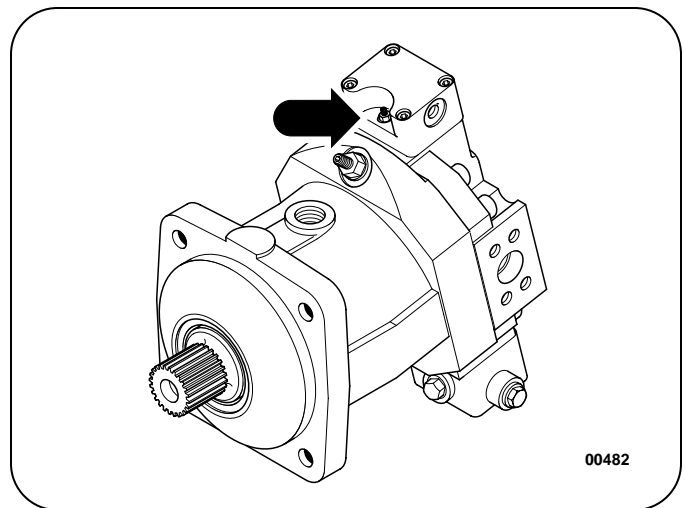

Figure 30: Wheel Drive Motor Begin Of Stroke Adjustment
13. Locate the begin stroke adjustment setscrew on the motor. See Figure 30. Use the 10mm wrench and 3mm allen wrench to loosen the jamnut and back the setscrew out **COUNTERCLOCK-WISE** a few turns. This will allow easier setting of the motor.